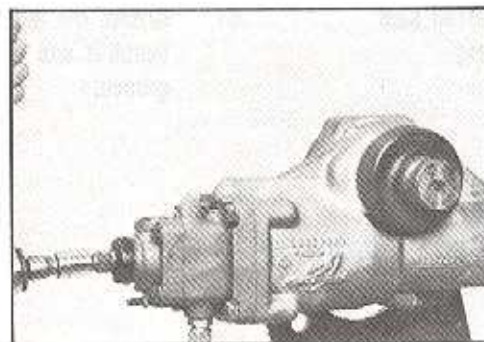

Figure 177
1. To center the steering gear, rotate worm shaft (25B) until the timing mark on the end of sector shaft (46) is perpendicular to the worm shaft. SEE FIGURE 177. A 12 point 3/4 or 13/16 inch box end or socket required.